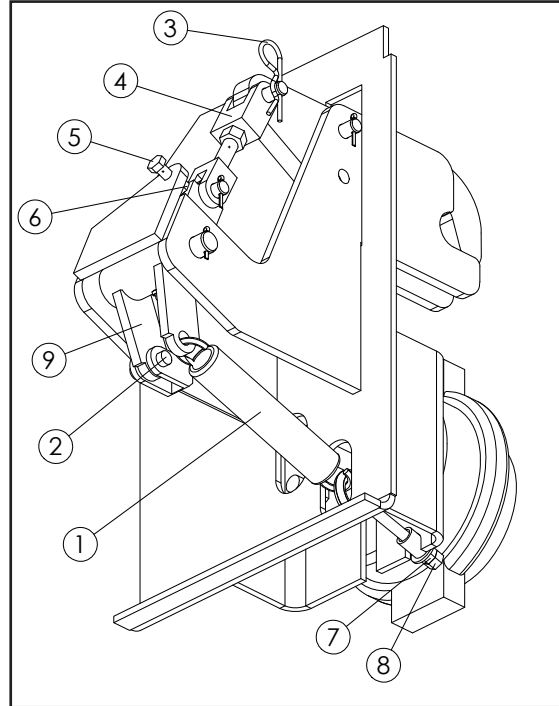

Figure 1 - Latch Adjustment
**CAUTION** Tag, lock or disconnect latch from air supply to prevent operation. Keep hands clear during adjustment, especially area between yoke joint and cap screw (Figure 1, Item 5).
Test tailgate latch mechanism by opening latch with about 85 PSI. Release air pressure and latch should close and toggle over-center with spring tension. Adjust according to the following (using Figure 1):